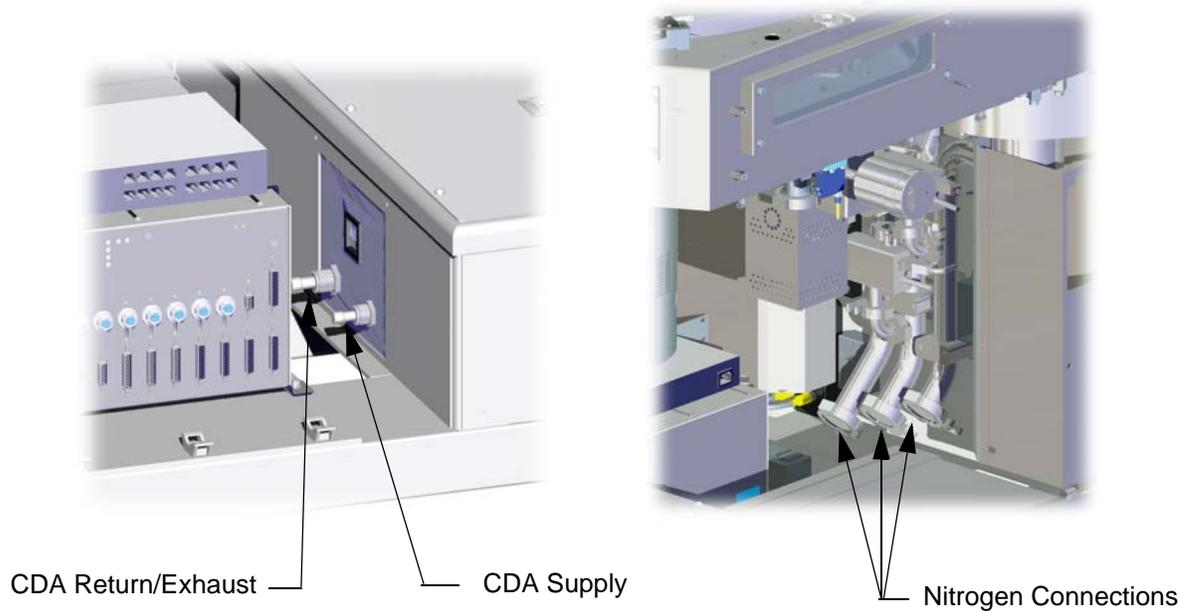
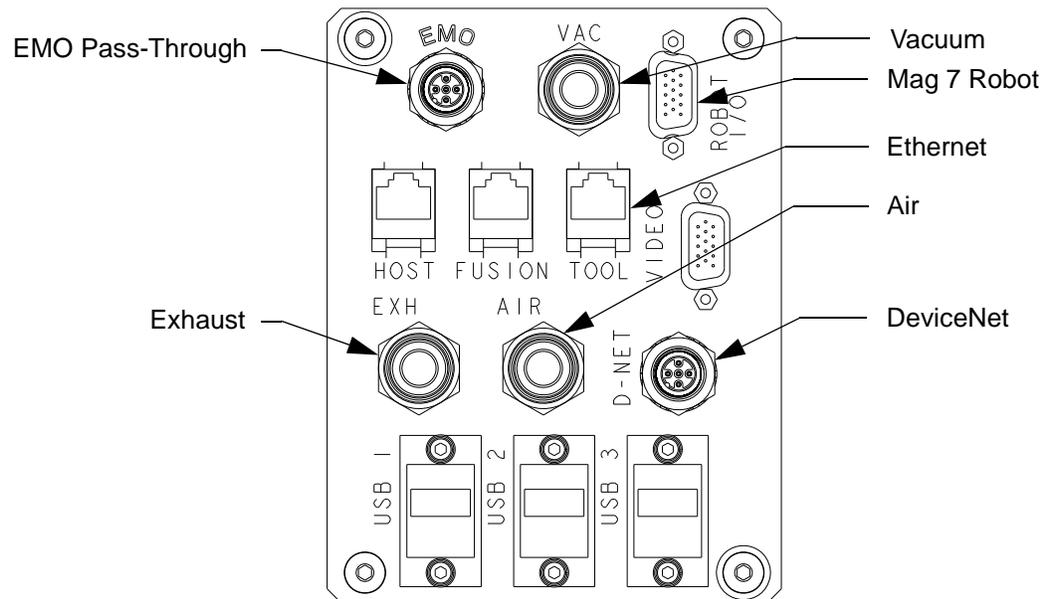

Figure 3-5: Facilities Connections - Gemini 2 Vacuum Back End
Figure 3-6: JET Facilities Panel
The Equipment Front End Module is supplied with facilities connections, including power, and interface panels located as shown in Figure 3-5. The standard configurations the EFEM modules are shown respectively. The standard configurations for the Facilities Panels referenced in the figures are shown in Figure 3-6.
The Vacuum Back End is supplied with facilities air and vacuum connections. The standard configurations for the JET Facilities Panel referenced in the figures is shown in Figure 3-6.
1. Run a  $\frac{1}{4}$  in. O.D. Nitrogen supply line to the N2 connection on the VBE as shown in Figure 3-5.
1. Connect the line for clean exhaust from the facility to the  $\frac{1}{2}$  inch Swagelok quick connect CDA EXH connection on the VBE as shown in Figure 3-5.
2. Connect the line for scrubbed exhaust from the facility to the OVER PRESS. EXH connection on the VBE as shown in Figure 3-5.
Run an appropriate size Teflon line from the facility water return to the RETURN connection on the VBE as shown in Figure 3-5.